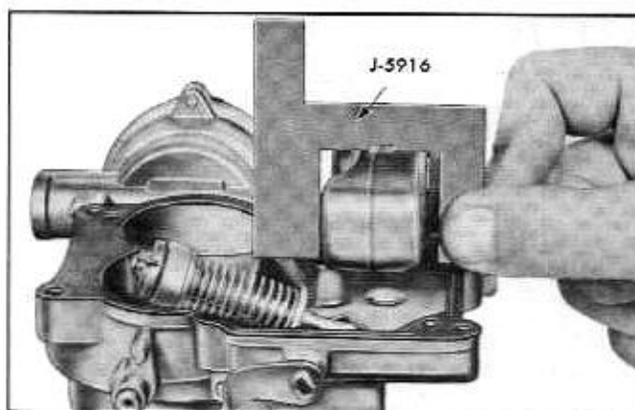

Fig. 6B-69 Checking Float Level
5. Install float needle seat and gasket, using wide blade screw driver (Fig. 6B-60).